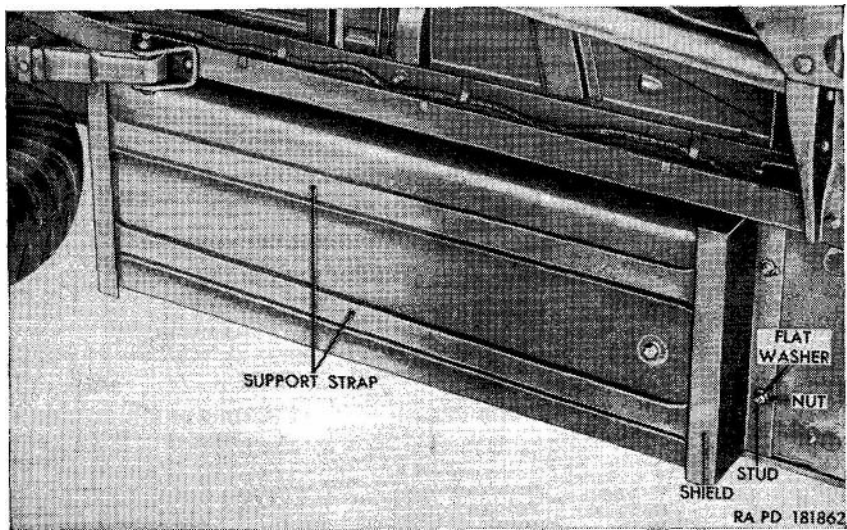

Figure 71. Fuel tank (M170)—installed.
- (6) Place a stand or blocking under the tank, making certain that such stand or blocking clears the fuel tank support strap (fig. 71).
- (7) Remove the four nuts and flat washers from the studs on the fuel tank support strap attaching brackets at each end of the fuel tank, and remove the two fuel tank shields and support straps.
- (8) Remove stands or blocking and lower tank.
- (9) Remove the filler cap with chain assembly by turning the cap counterclockwise, and unhook the chain from the inside of the fuel tank filler neck.
- (10) Remove the 12 screws and soft copper seal washers securing fuel filter assembly to the tank, and remove the filter assembly and gasket.